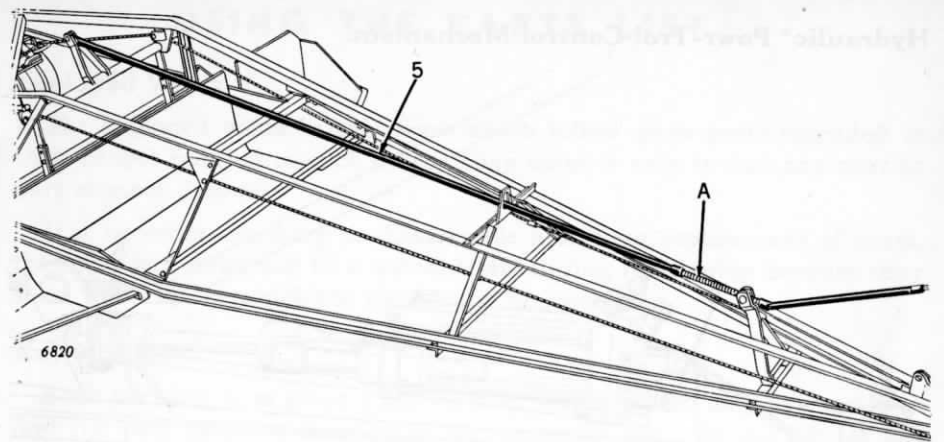

Figure 21—Connecting Rod Installed
5. Now attach long connecting rod (Bundle AC3102Y) to the bell crank as shown in Figure 21. At the front end, screw the free end of the adjusting screw assembly marked "A" into the forward end of the connecting rod. Slip trunnion link over the traveling nut on the adjustment screw and install snap rings. The strut (or cylinder piston rod clevis if Powr-Trol unit is used) should be installed at this time. See next page for more complete information about cylinder installation.